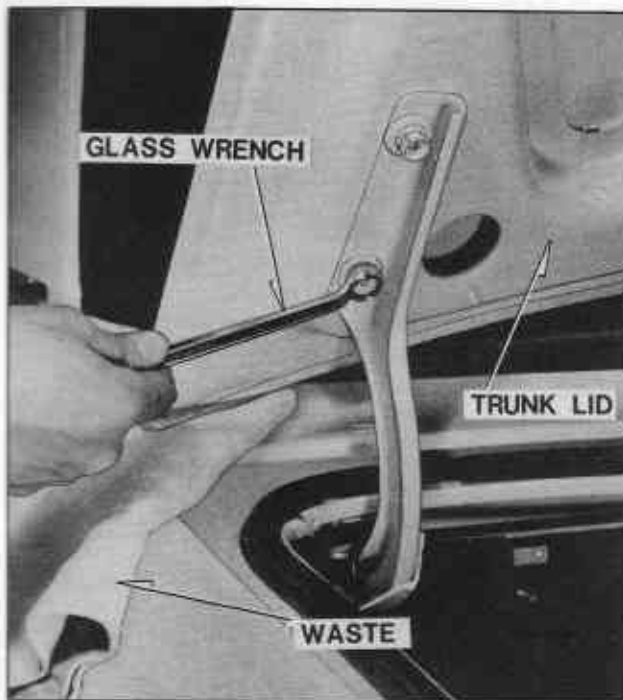

Fig. BF-10 Removing trunk lid
2. With the aid of a helper, remove the trunk lid attaching bolts and remove trunk lid (See Fig. BF-10).